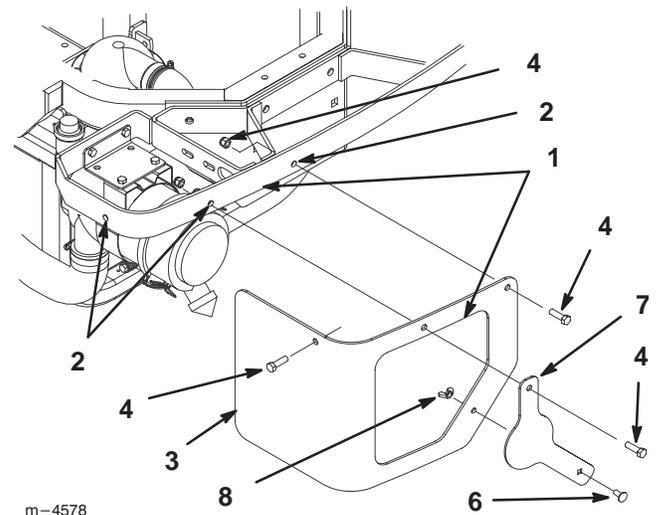

Figure 18
1. Hold guard up to the bumper so the bottom edge of hole in guard lines up with the bottom edge of bumper (Fig. 18). Clamp to bumper.
2. Using the guard as a template, drill three 11/32" holes into bumper (Fig. 18).
3. Install two 5/16" screws into outside holes (Fig. 18). Do not install bolt in center hole until guard plate is installed.
4. Install the guard plate using a 5/16" bolt in the center top hole and carriage bolt and wing nut in the bottom hole (Fig. 18).